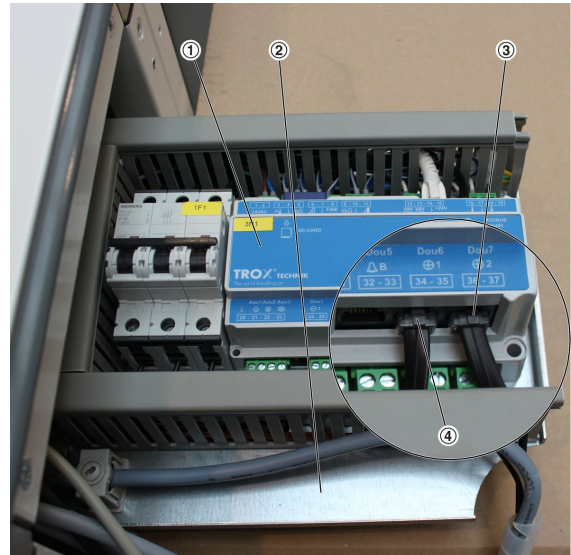

Fig. 6: X-CUBE control master
6. ▶ To connect the bus cable to the control master ( Fig. 6 /1), pull out the tray with the electrical components ( Fig. 6 /2).
Feed the bus connection cable through the cable entry point ( Fig. 2 /2) in the panel and plug it into port C (RJ12 socket, Fig. 6 /3) of the control master.
If port C is already used, plug the connection cable into port B (RJ12 socket, Fig. 6 /4).